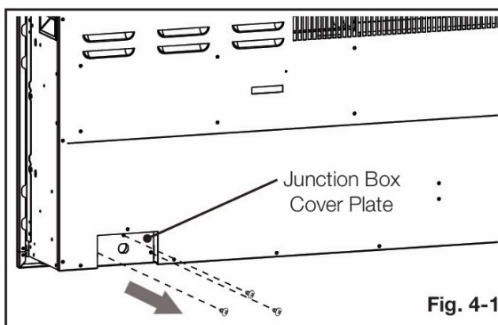

Fig. 4-1
- Remove the wall mount bracket from the backside of the fireplace. Store in a safe place. (Fig. 4-1)
- Remove the 3 securing screws from the junction box cover plate, located on the bottom left-hand, back-side of the appliance (Fig. 4-1).